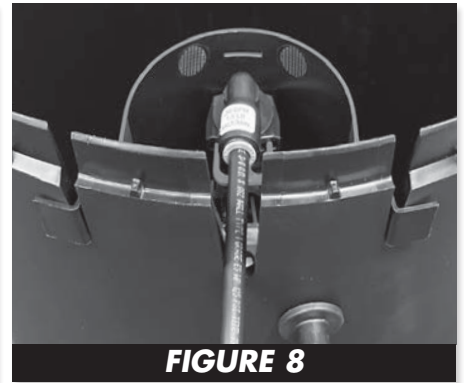

FIGURE 8
d. **BRINE LINE** — Push the brine line into the flow control elbow of the safety float assembly until it locks into place (**Fig. 8**).